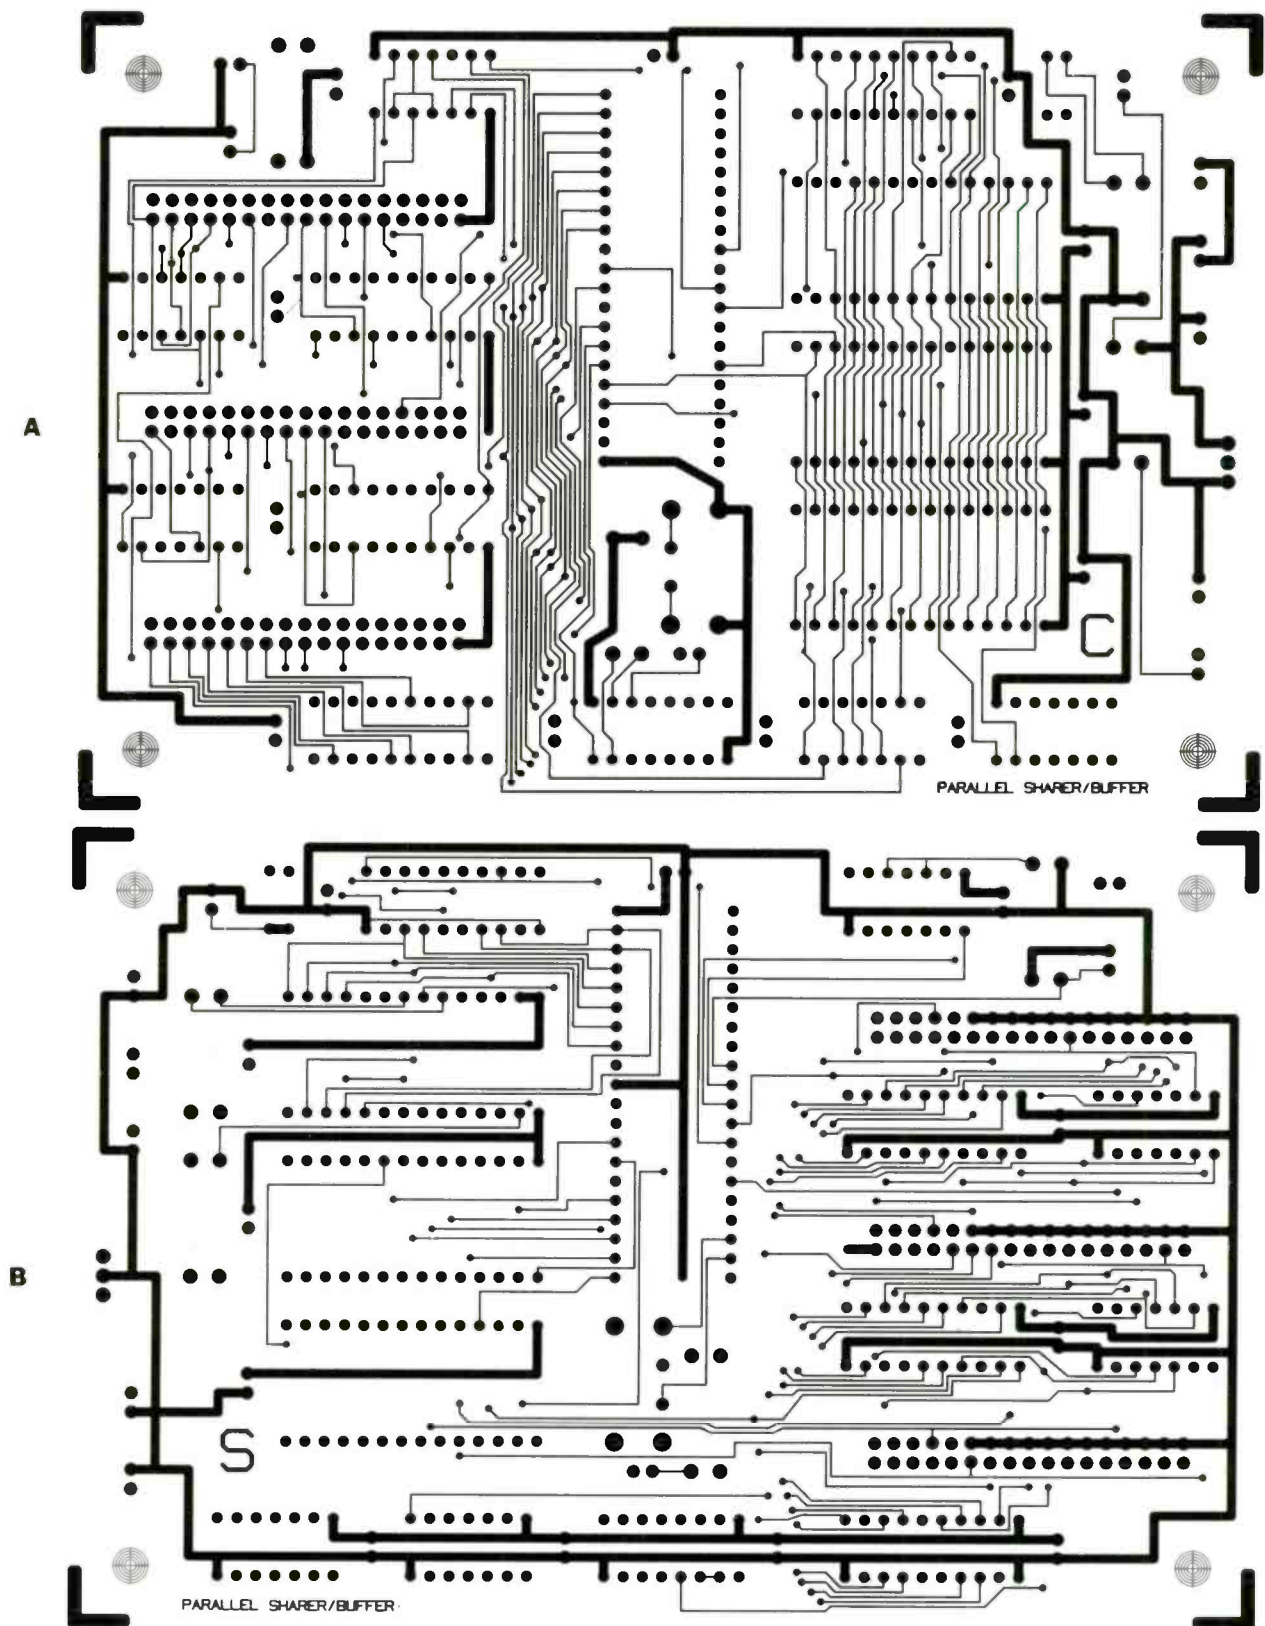

Fig. 2—The full-scale foil pattern for the double-sided printed-circuit board. The component side is shown in A; the solder side is shown in B.
**Construction.** The authors prototype of the circuit was fabricated on a double-sided printed-circuit board, the foil patterns for that board are shown in Fig. 2. You can, if you wish, wire-wrap the Print/Buffer Spooler, but bear in